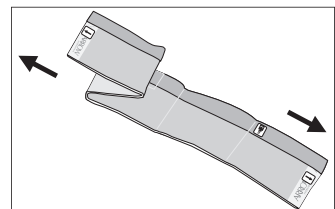

Figure 9
- Unfold width (refer to Figure 9).